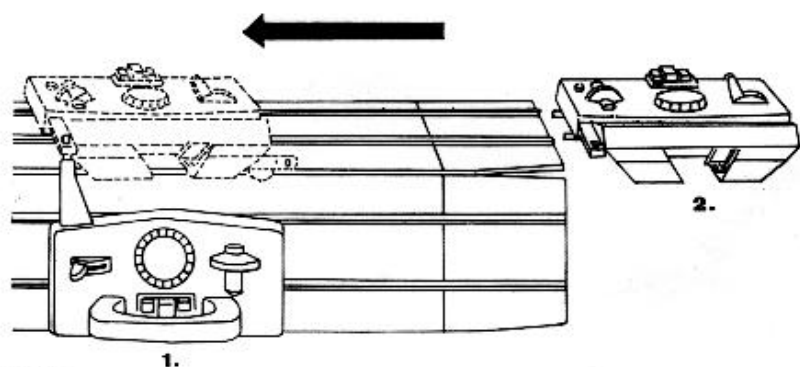

Fig. 18
2. **Slide back lock from the right onto back needle bed, Fig. 18.**